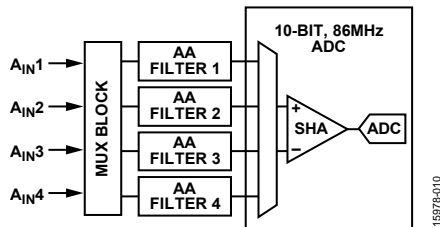
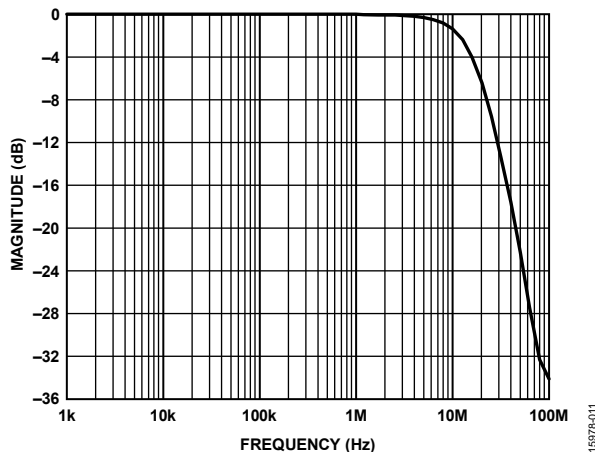
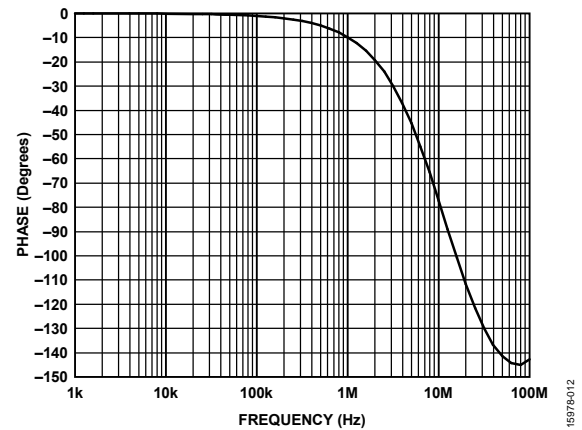

Figure 9. Antialias Filter Configuration
Figure 10. Antialiasing Filter Magnitude Response
Figure 11. Antialiasing Filter Phase Response
The ADV7182A has optional on-chip antialiasing (AA) filters on each of the four channels that are multiplexed to the ADC (see Figure 9). The filters are designed for standard definition video up to 10 MHz bandwidth. Figure 10 and Figure 11 show the filter magnitude and phase characteristics.